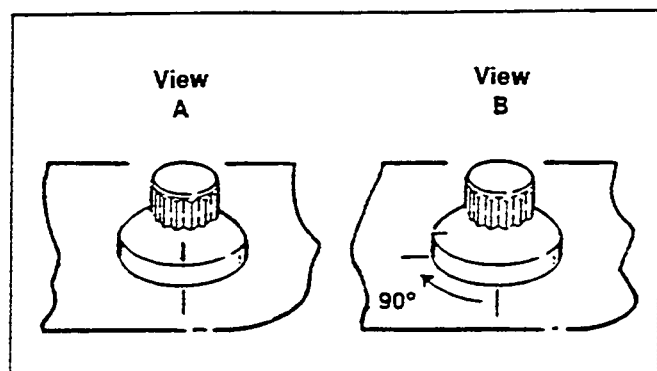

Figure 7. Tighten Head Bolts
- c. See Figure 7. Mark a line on the cylinder head and a corresponding line on the head of the cylinder head screw as shown in View A. Following the same sequence 1, 2, 3, then 4, turn each head screw, one at a time one quarter turn (90°) using the marks as a guide. When marks are all positioned, as in View B, the procedure is completed.